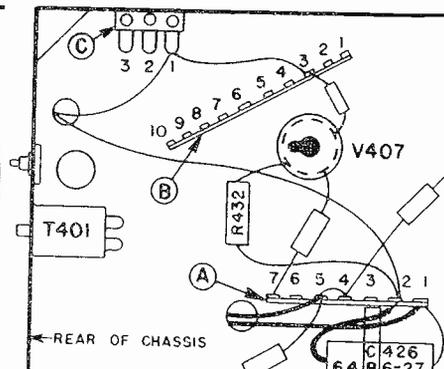

Fig. 2 MODIFIED CIRCUIT
6. Insulate one lead of a 0.5- μ f capacitor (64B6-27) with a 1-1/4" length of spaghetti tubing (96A2-5). Solder capacitor mounting strap to chassis next to terminal 3 of tie-strip "A". Connect capacitor between terminals 1 and 2 of tie-strip "A", insulated lead on terminal 2. See Fig. 2.